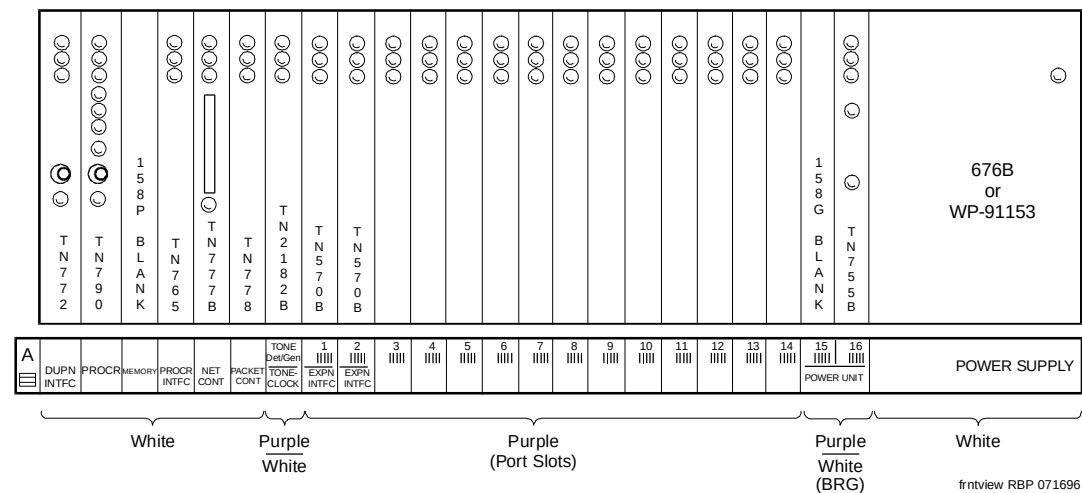

Figure 6-7. Circuit Pack Locations in Duplicated Control Cabinet
1. At each control cabinet, remove the combined TN786B/CPP1 processor/memory circuit pack from the control-cabinet "MEM" (see Figure 6-7).
3. At each control cabinet, install the TN790 processor circuit pack into the control cabinet slot labeled "PROCR" (see Figure 6-7).